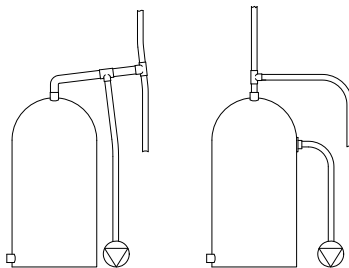

Fig. 6
2.27 **Hot water supply:** The pump **must be** supplied with a **dedicated feed** direct from the hot water cylinder or storage tank which should be via a secondary dedicated tapping (see Fig. 6).